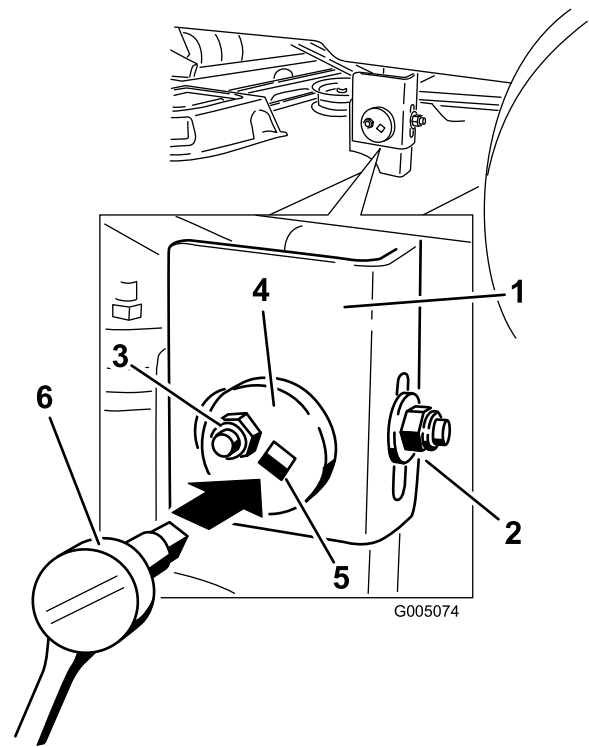

Figure 41
7. At the left side of the machine. Loosen, but do not remove, the rear locking nut on the hanger bracket (Figure 41).
8. Loosen the side locking nut on the hanger bracket just enough to allow the centric plate to be adjusted (Figure 41). Use a 3/8 inch drive extension on a socket wrench to manipulate the centric plate. Use the wrench to reposition the height of the mower deck and adjust to the desired height.
9. Stop the deck at the adjusted position and tighten the side locking nut on the hanger bracket to hold the new position (Figure 41).